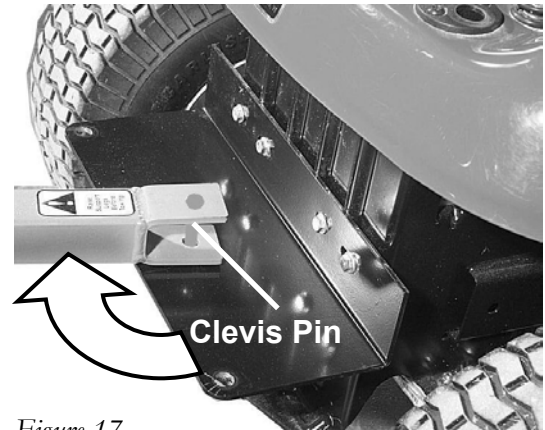

Figure 17
1. Position your lawn tractor on level ground at a slight angle to the trailer tongue on the DR LEAF and LAWN VACUUM (*Figure 17*) and set the parking brake.
2. Lift the trailer tongue and rest it on the Hitch Plate (*Figure 17*). Align the hole in the center of the Hitch Plate with the holes in the tongue and insert the Clevis Pin. This will hold the trailer stationary.